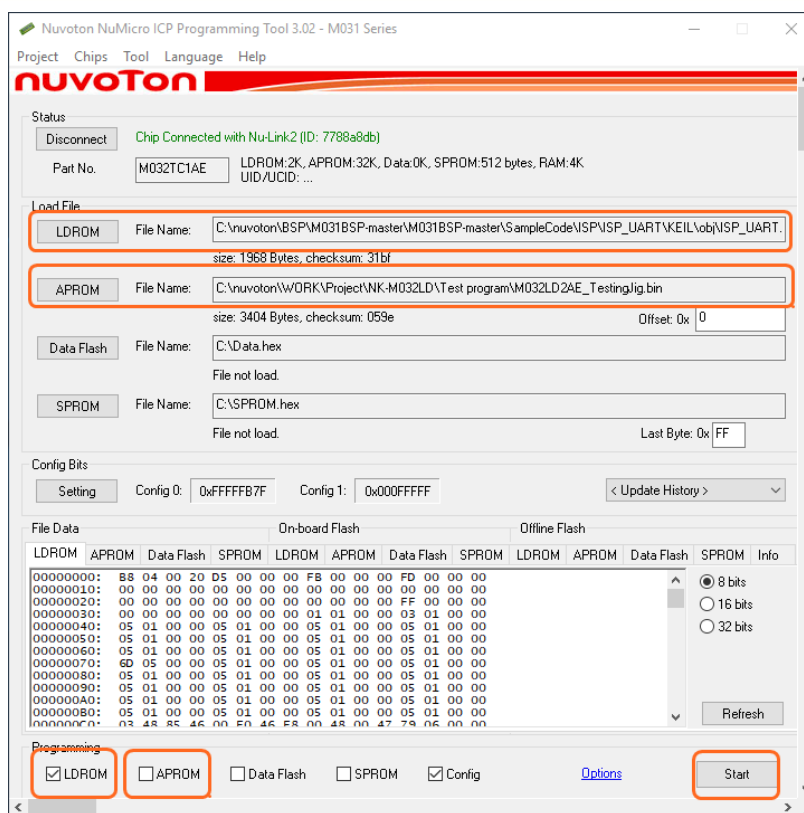
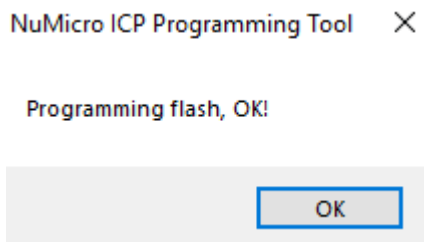

Figure 5.2-7 Programming File Selection Window
Figure 5.2-8 Programming Completion Window
- (11) As shown in Figure 5.2-7, select the “.bin” file you want to programming APROM and LDROM, and tick the memory location.
- (12) Click the Start button to start programming.
- (13) As shown in Figure 5.2-8, click the OK button in the programming completion window to complete the operation.